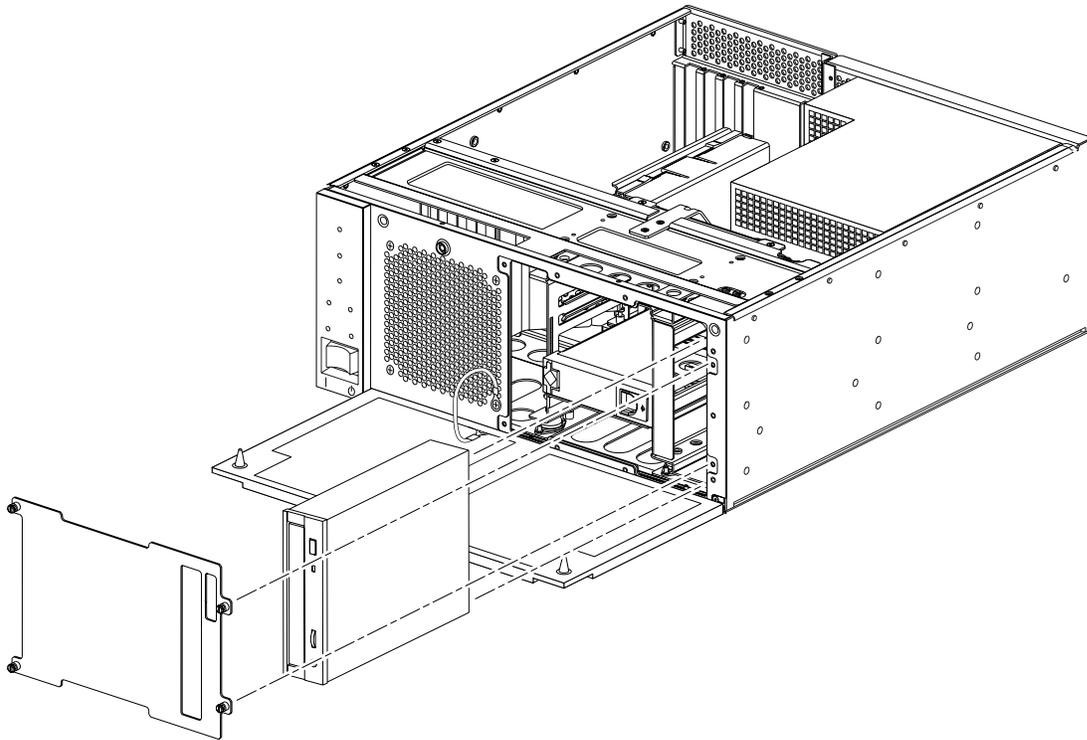

FIGURE 9-2 Removing and Replacing the CD-ROM or Tape Drive
7. **Push the drive fully into the drive assembly (FIGURE 9-2 on page 66).**